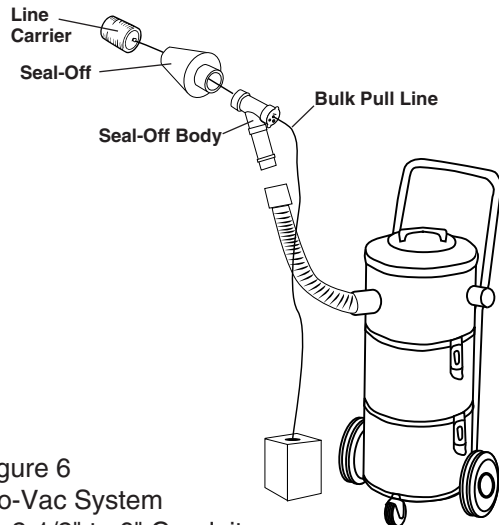

Figure 6
- ii. Tag-A-Long or bulk nylon pull line and poly-pull rope are the types of material suitable for 2-1/2" to 6" conduit. A line carrier is required for each type pull line or poly rope. Maximum pull line size is PL232 bulk line (see Figure 6).